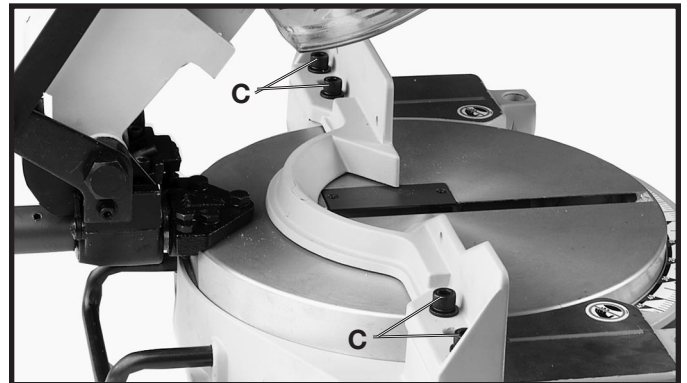

Fig. 24
2. To adjust, loosen the four screws (C) Fig. 24, and adjust fence 90 degrees to the blade. Tighten the four screws (C).